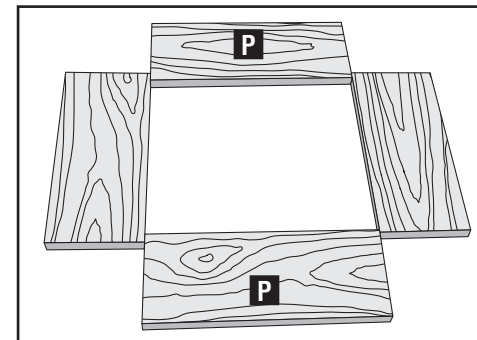

Fig. 20
- STEP 4: Label the pin boards (drawer front and back) with a "P" (Fig. 20)